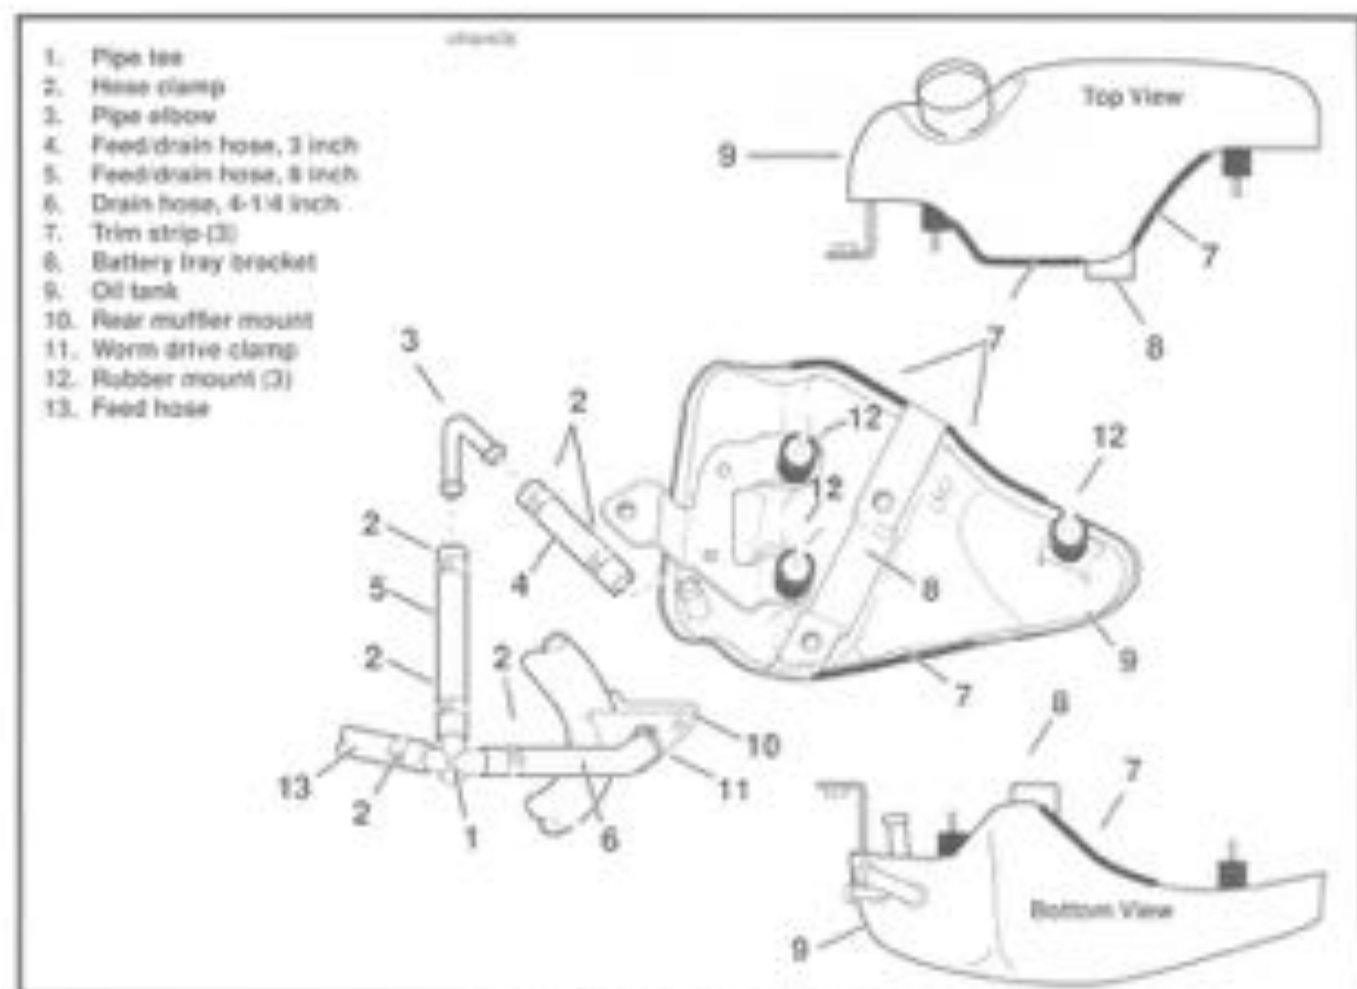

Figure 3-45. Engine Oil Tank Assembly
1. See Figure 3-45. Install three rubber mounts (12) onto oil tank (9). Note that washers are not used.
2. Install trim strips (7) in marked positions on upper and lower inboard seams of oil tank (9). Apply upper trim strips to seams on each side of battery tray bracket (8). Use a rubber mallet to seat strips on seams, if necessary. Verify that strips butt up against bracket.
5. Position oil tank (9) in its installed location on motorcycle. Align studs on inboard side of rubber mounts with flanges welded to frame members. See Figure 3-45. Install locknuts to secure oil tank to frame. Tighten locknuts to 3-5 ft-lbs (4-7 Nm) torque.
2. See Figure 3-45. Disconnect and tag the three oil hoses from the pump as shown.